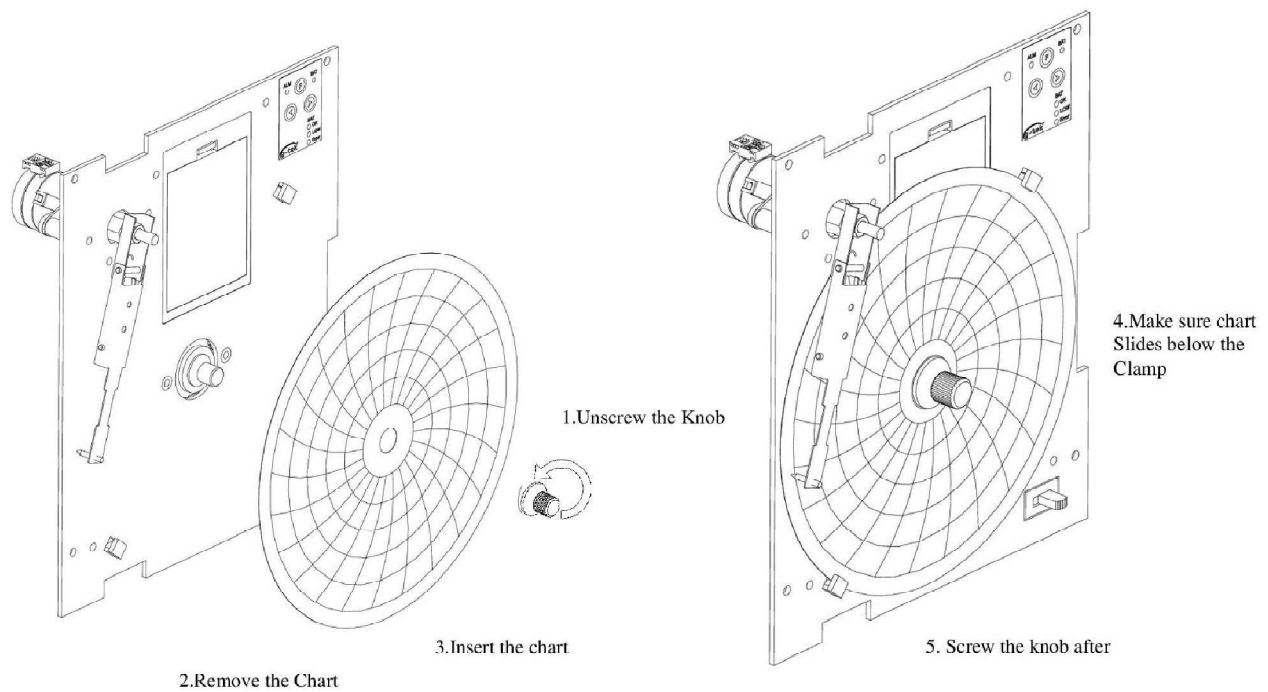

Figure 8 - Chart Fitting
3. Unscrew the chart knob as shown in figure 8.
6. Screw the knob after setting time axis. Make sure that chart slides below the clamp as shown in Figure 8.